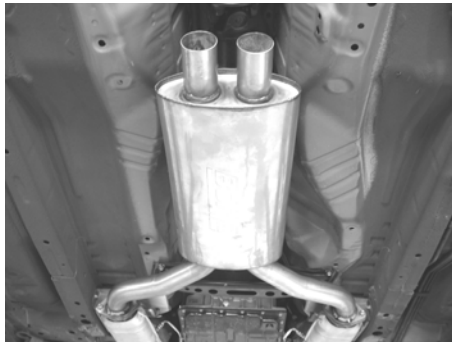

Figure 3
1. Using the original hardware for the flanges, place the front muffler assembly into position as shown in figure 3.